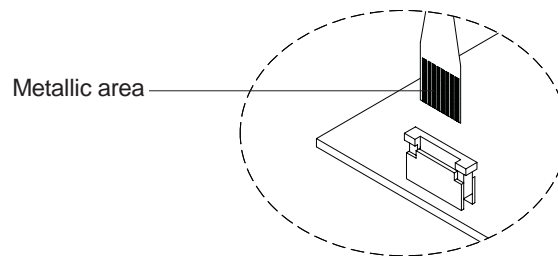

Figure 49. Removing the flexible cable from the connector holder
1. Pull up on the connector holder (see Figure 49).